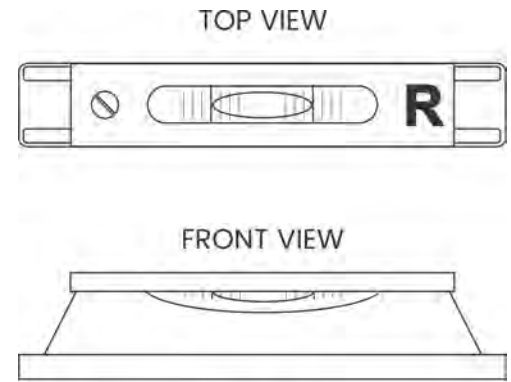

Figure 16
- Once the level locations are determined, mark the outline of the level with a felt tip pen. This puts the level back exactly at the same location every time. When you put it back again, don't let the level sit on the ink outline. Mark the Letter "**R**" on a piece of tape placed on one end of the machinists' level. Every time you put the level on the press bed, the end marked "**R**" must be either toward the **Rear** of the press or the **Right** end of the press. This eliminates doubling of any level calibration error. See Figure 16.